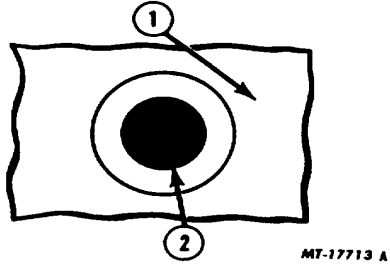

Fig. 3 Test Indicator Dark (Green Dot Not Visible)
- b. Dark (Green Dot Not Visible) (Figure 3)